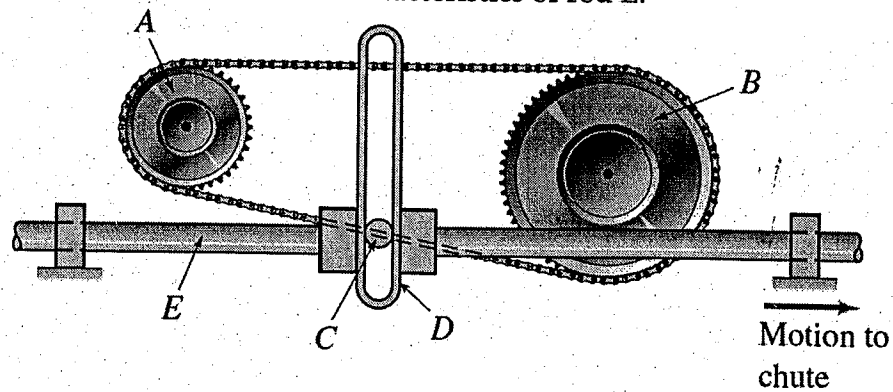

Figure 2
4. The device shown in Figure 2 drives a chute that funnels individual beverage bottles into 12-pack containers. Pin C is rigidly attached to one link of the chain. Yoke D is rigidly welded to rod E, which extends to the chute (not shown). Carefully examine the components of the mechanism, then answer the following leading questions to gain insight into its operation.